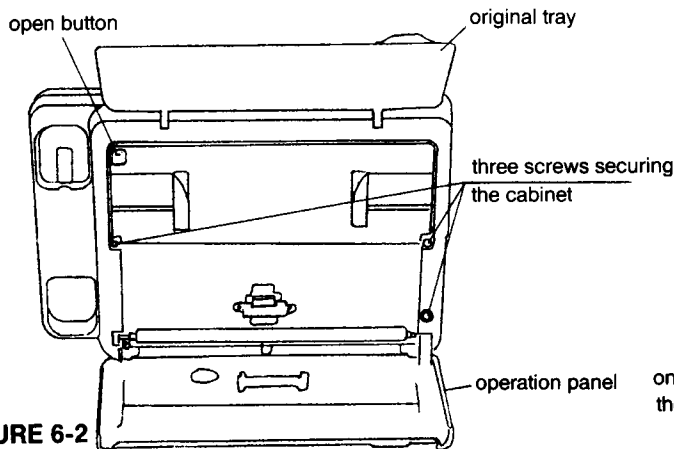

FIGURE 6-2
- Open the original tray and the operation panel, then remove three screws securing the cabinet. (See figure 6-2)
- Press the open button to open the receiving cover, then remove the cabinet. (See figure 6-2)